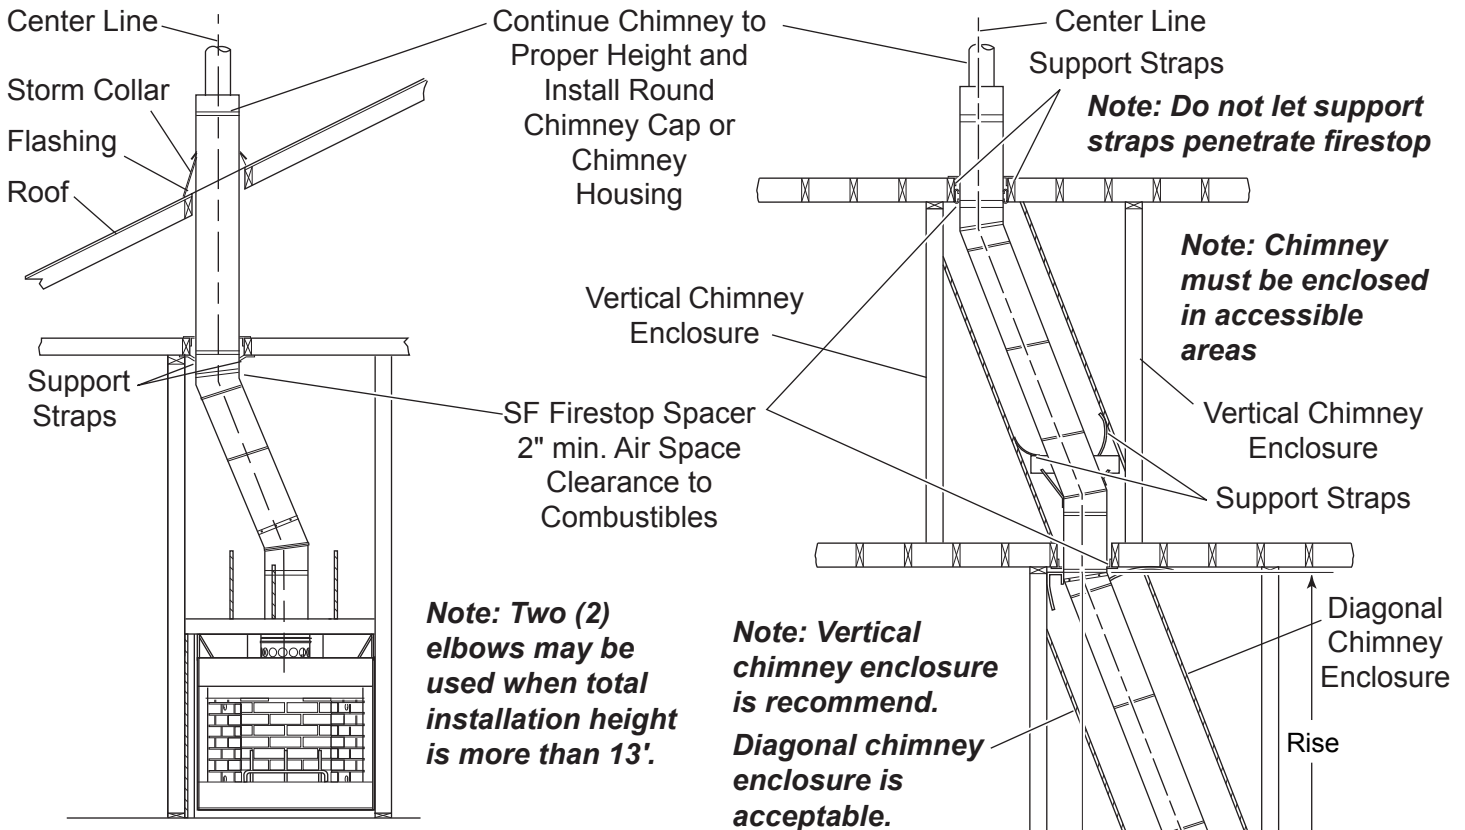

Figure 22 - Installing Chimney with Total Height of Fireplace and Chimney 13' or More
4. Inclined portions of chimney is often used as storage. Enclose the inclined portions of chimney that pass through living spaces to avoid contact with and possible damage to chimney. Maintain minimum air space of 2" between chimney and enclosing. See Figures 22 and 23.